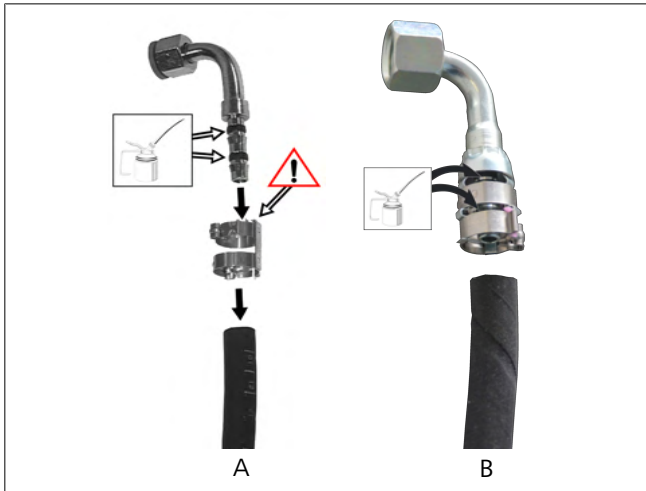

Fig. 19 Lubricate fittings
- Fitting with separate clamp, see Fig. 19 A
- Fitting with fixed clamp, these are standard supplied by Webasto, see Fig. 19 B